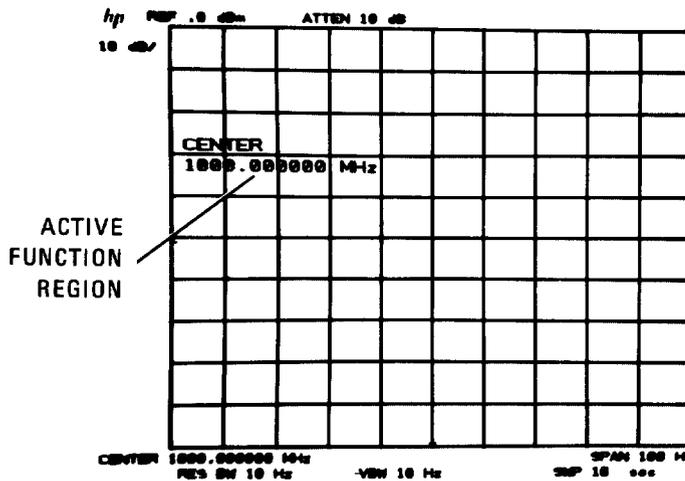

FIGURE 16. CRT DISPLAY FOR FINAL DISPLAY ADJUSTMENTS
2. Key in **FREQUENCY SPAN** 100 Hz, **CENTER FREQUENCY** 1 GHz, TRACE A **BLANK**. Trace should be blanked and CRT annotation in the active function region should appear similar to Figure 16.